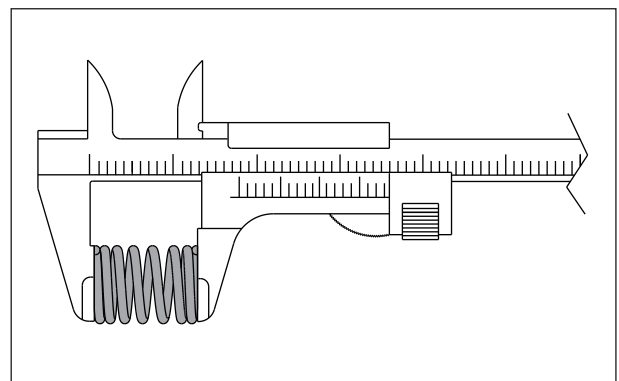

Fig. 3.19
- Check the free length of springs clutch using a vernier caliper. If the springs reaches service limit, replace all the spring as a set. (Fig. 3.19)